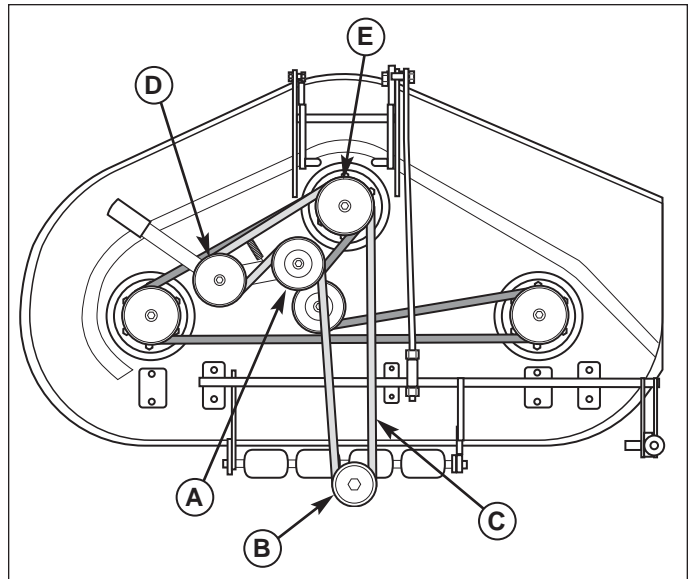

Figure 31. PTO Belt Replacement
2. Move the spring loaded lever to relieve tension on the PTO belt. Remove the PTO belt from the idler (D, Figure 31) and engine pulley (B).
3. Install the new belt (C) as shown.